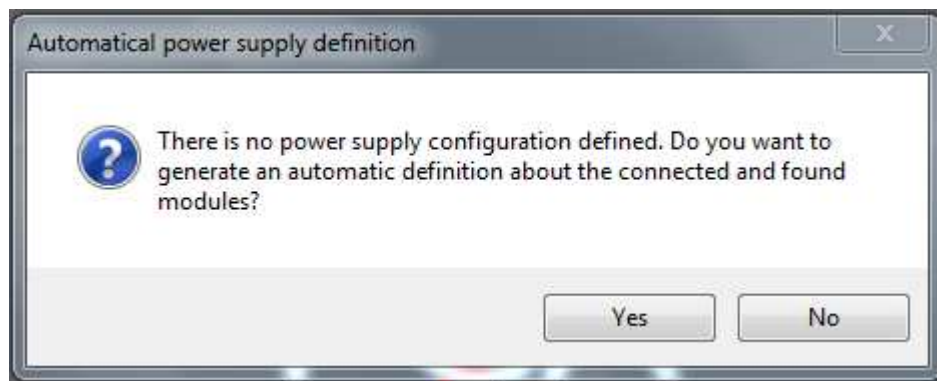

Figure 2-9 Automatic module detection
2. Open PCA and check if the USB connection is established. Click *Tools* and *Open MFU SE form*. If a window message like the one in the figure 2.9 will show up, click yes. If not please contact your supervisor.